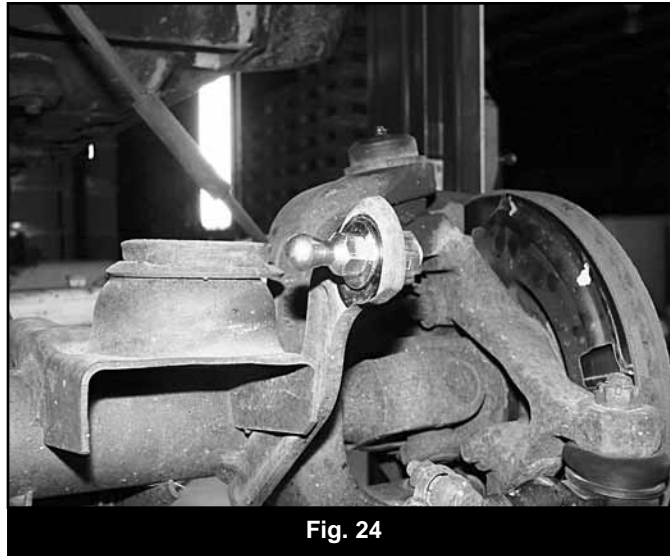

Fig. 24
64. Install the new lower ball stud (01302) to the OE sway bar link mount with a 1/2" nut and two 1/2" SAE washers (BP 718). The washers mount on each side of the OE mount (Fig 24). The ball mounts toward the inside of the vehicle. Torque stud to 60 ft-lbs.